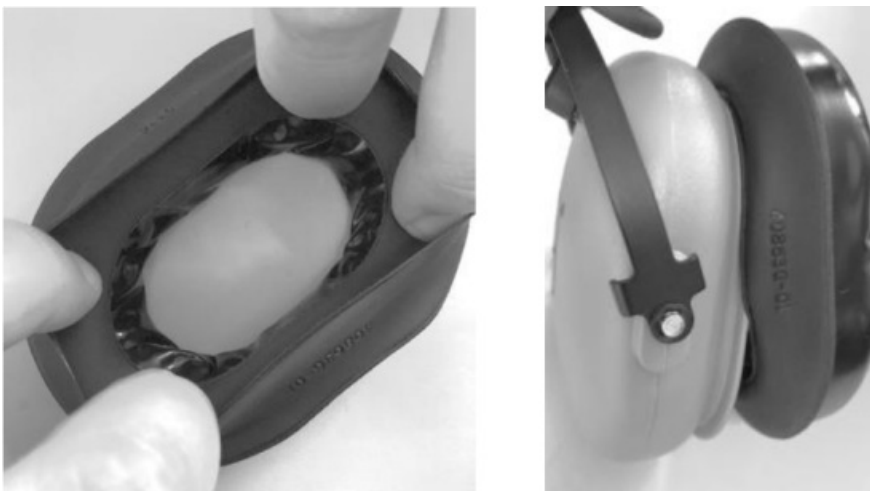

Figure 6: Ear Seal, Stretching and Partial Install
3. Install top half of ear seal inner lip oval only on top half of ear cup ridge, align flat portions of ear seal lip and ear cup ridge in parallel fashion, then hold ear seal firmly in place (**see Figure 6**)